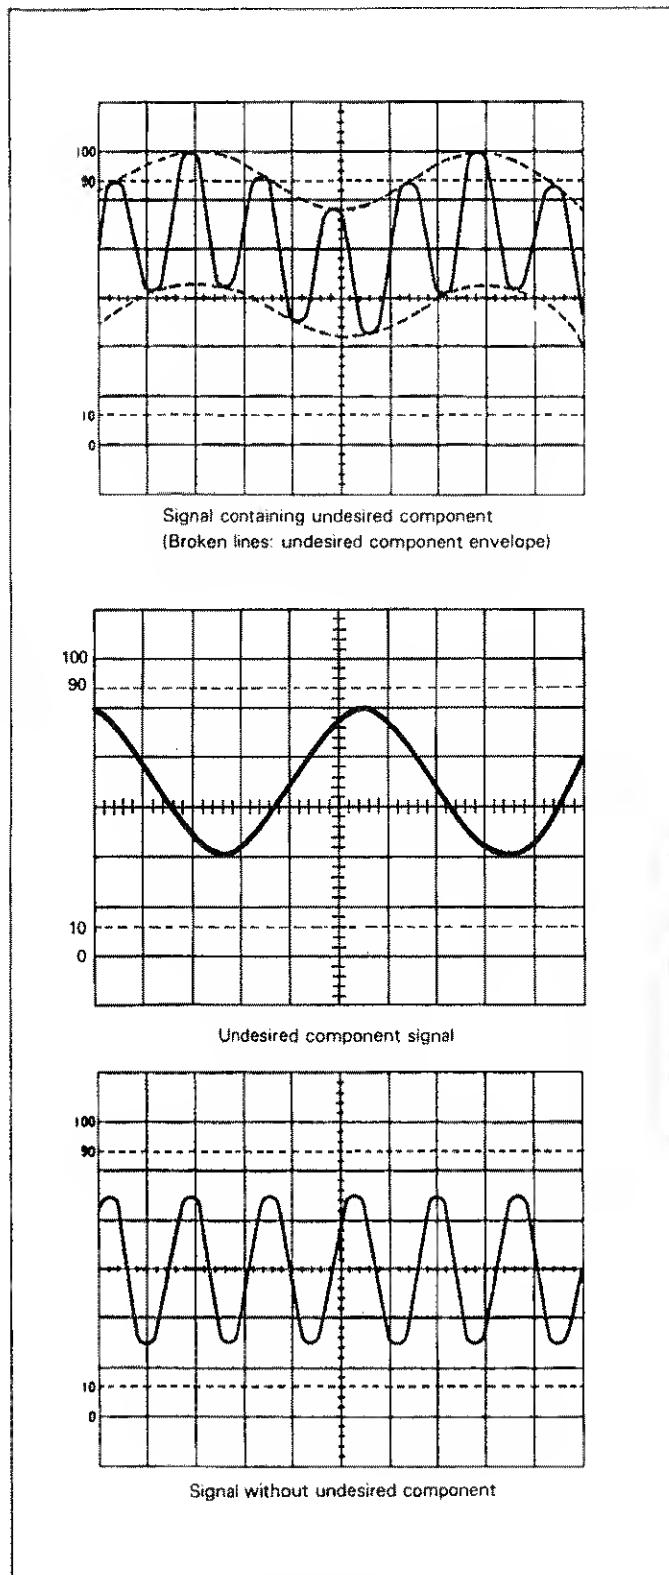

Fig. 7. Eliminating An Undesired Signal Component.
ELIMINATION OF AN UNDESIRED SIGNAL COMPONENT (Refer to Fig. 7)
1. Apply the signal containing an undesired component to the **CH 1 (X)** input jack and the undesired signal itself alone to the **CH 2 (Y)** input jack.
2. Select a trigger source of channel 2. Adjust the controls to display two signals, such as shown in Fig. 7. Verify that the channel 2 trace represents the unwanted signal in reverse polarity. The polarity may be reversed by pressing **CH 2 Invert**.